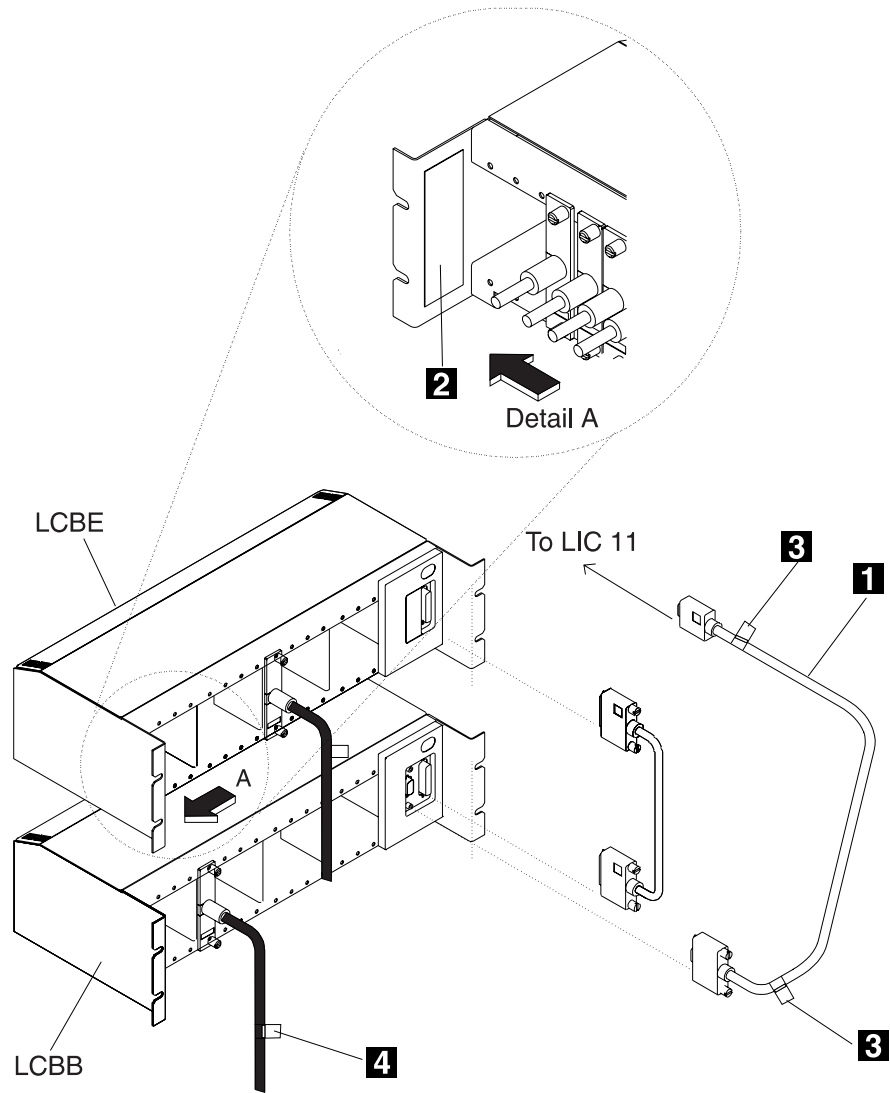

Figure C-10. LCBB and LCBE Connections (Installed with ARC Assembly A)
Step 3 Put the label on the inner left side of the LCB (see **3** in Detail A of Figure C-10 on page C-15).
Step 11 Put two identical labels at both ends of the cable (see the two **4**s in Figure C-10 on page C-15).
Step 12 Connect the LIC11 cable to the LCB base and tighten the cable plug retaining screws (see “Unplugging or Plugging In LIC Cables” on page C-7 for details, and also **2** in Figure C-10 on page C-15).
Step 5 Put ARC labels at both end of the cable (see **5** in Figure C-10 on page C-15). Remove any old labels first.